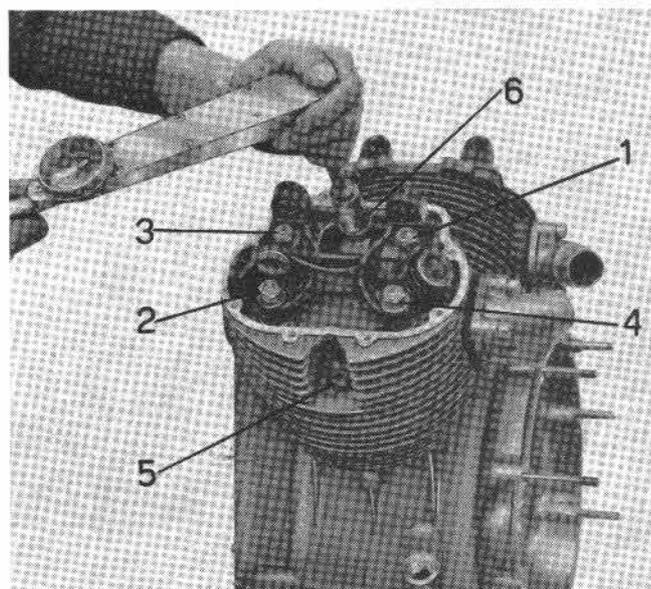

Fig. 25
- screw down nuts on long and short bolts, in crossed sequence, without tightening. Using a torque wrench rated at  $Kg/m. 3.800$  ( $27.48\ ft.lb$ ) gradually tighten long and short bolt nuts accordingly to sequence shown in Fig. 25 (1-2-3-4-5-6).